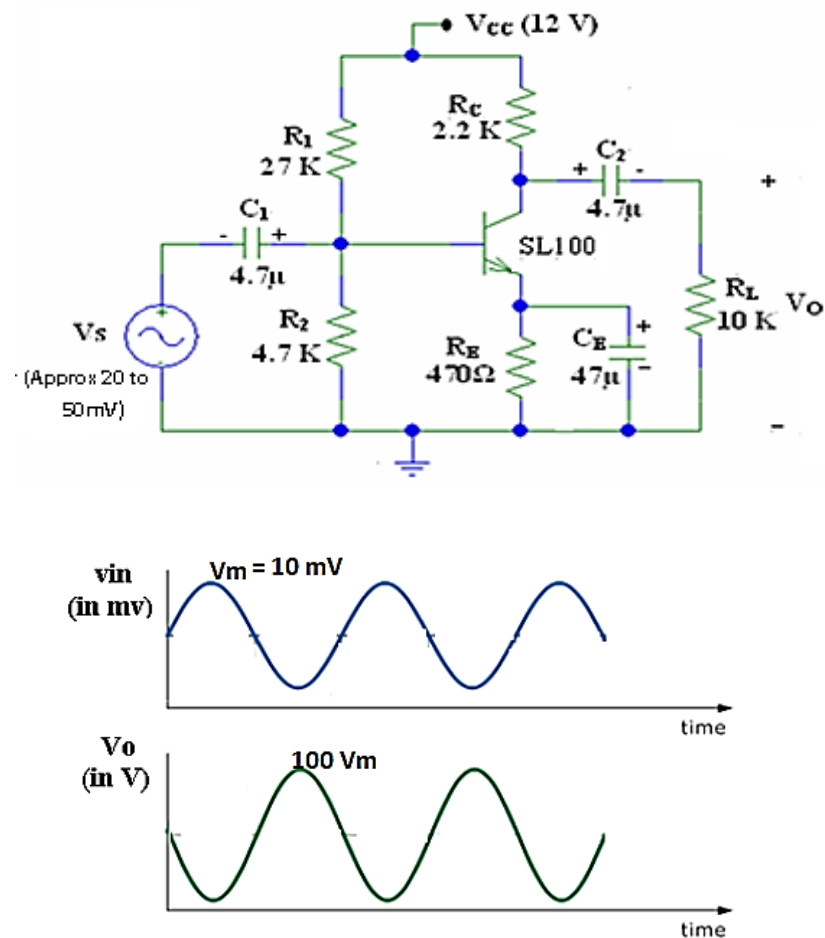

Figure 13.7: Circuit diagram of RC Coupled Amplifier
13.7 Draw electronic circuit diagram of RC Coupled Amplifier as shown in Figure 13.7